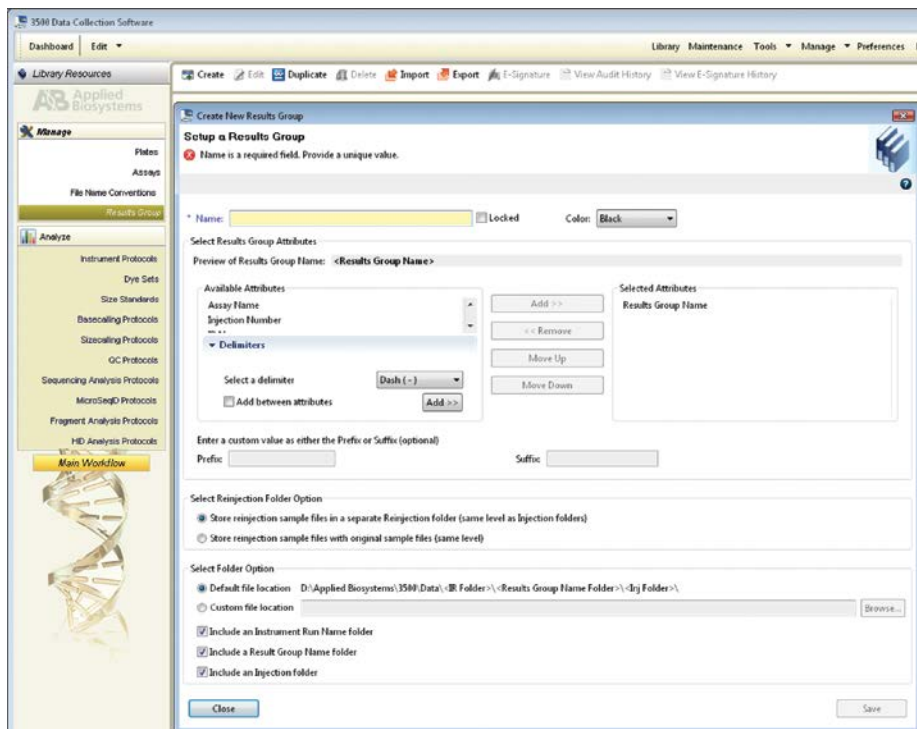

Figure 9. The Create New Results Group window.
7. To create a new Results Group (Figure 9), navigate to the Library. Select “Results Group”, then select “Create”. Alternatively, a previously created Results Groups may be used.